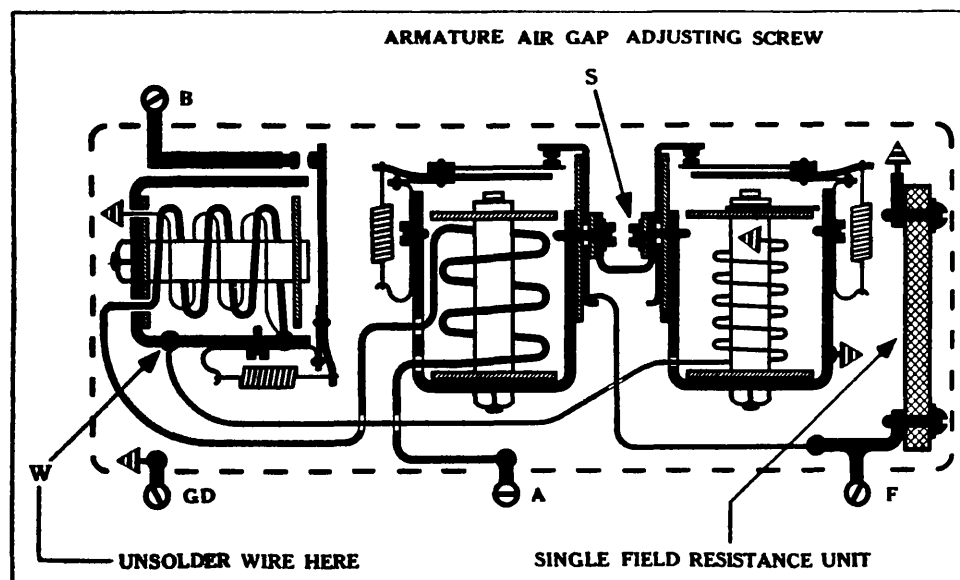
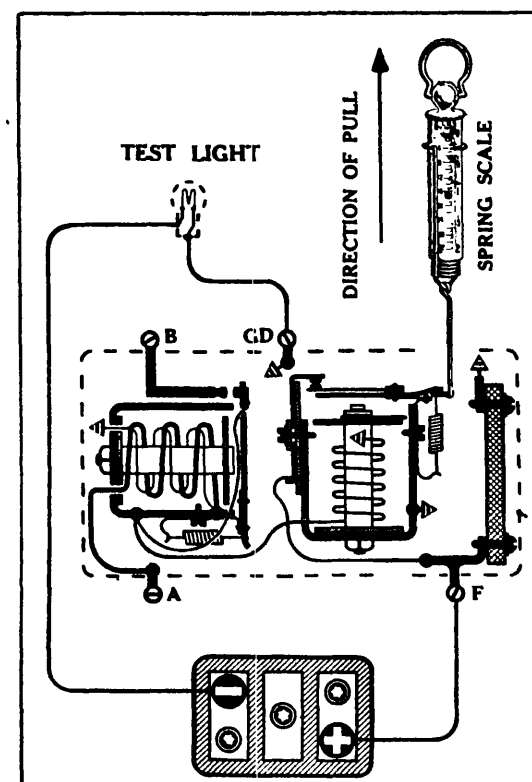

Fig. 7
Fig. 8
1. Check circuit breaker voltage winding. (An accurate reading ohmmeter is needed for this test.) The voltage windings on circuit breakers used in both the VRB and the VRD series of regulators have a resistance of 37.0 ohms. (A variation of plus or minus 5% is permissible.) In making this test it is necessary to disconnect the insulated voltage regulator lead from the circuit breaker "U" frame (see "W" Figure 7). The ohmmeter should be connected between the regulator terminals "A" and "GD". (Resistance in ohms is found by dividing the voltage readings by the amperage draw.)
1. Check contact spring tension. NOTE: At the time of publication Auto-Lite have not, as yet, issued official figures on the contact spring tension for the VRB and VRD series of regulators. Repeated tests made by our engineers on all model VRB and VRD regulators, show that the contact point will open with an average pull of 24 ounces when the spring tension scale is hooked just below the top loop in the armature restraining spring and the pull exerted at right angles to the armature (see Figure 8). To accurately determine the instant that the regulator points separate, we recommend the use of a 6 volt test light as shown in Figure 8. The light will burn as long as the regulator contacts are closed, but will go out the instant the points open.
2. Check armature air gap at the instant the points just open. On the VRB series of current regulators the air gap should be between the minimum of .060 and the maximum of .062 inches. The Auto-Lite Co. recommend the use of a pin gauge, their parts number "ST-281-2". Measurements should be made on the regulator point side of the brass armature stop pin found in the end of the regulator magnet core. The 6 volt test light should be connected as shown in Figure 8. With the low limit pin gauge in place, depress the armature, and the light should go out or become very dim. With a high limit pin gauge in place depress the armature and the light should stay lighted. IMPORTANT! Use care in depressing the armature that you do not touch the contact point spring. Apply the downward pressure near the center of the armature. Adjustments may be made by loosening screw "S" (See Figure 7), which holds the upper regulator point. The point may then be raised or lowered, depending upon the adjustment that is to be made.
1. Check the resistance of the voltage regulator winding. (An accurate reading ohmmeter is needed for this test.) The insulated end of the voltage regulator winding must be disconnected from the circuit breaker "U" frame. (See Figure 7). Measurements are taken from the insulated lead to the "GD" terminal on the regulator. A resistance of 15.0 ohms is specified for the voltage winding on both the VRB and the VRD regulators.
3. Check armature air gap at the instant the points just open. On the VRB series of voltage regulators the air gap should be between the minimum of .060 and the maximum of .062 inches. The Auto-Lite Co. recommend the use of a pin gauge, their parts number "ST-281-2". Measurements should be made on the regulator point side of the brass armature stop pin found in the end of the regulator magnet core. The 6 volt test light should be connected as shown in Figure 8. With the low limit pin gauge in place, depress the armature, and the light should go out or become very dim. With a high limit pin gauge in place depress the armature and the light should stay lighted. **IMPORTANT!** Use care in depressing the armature that you do not touch the contact point spring. Apply the downward pressure near the center of the armature. Adjustments may be made by loosening screw "S" (see Figure 7), which holds the upper regulator point. The point may then be raised or lowered, depending upon the adjustment that is to be made.